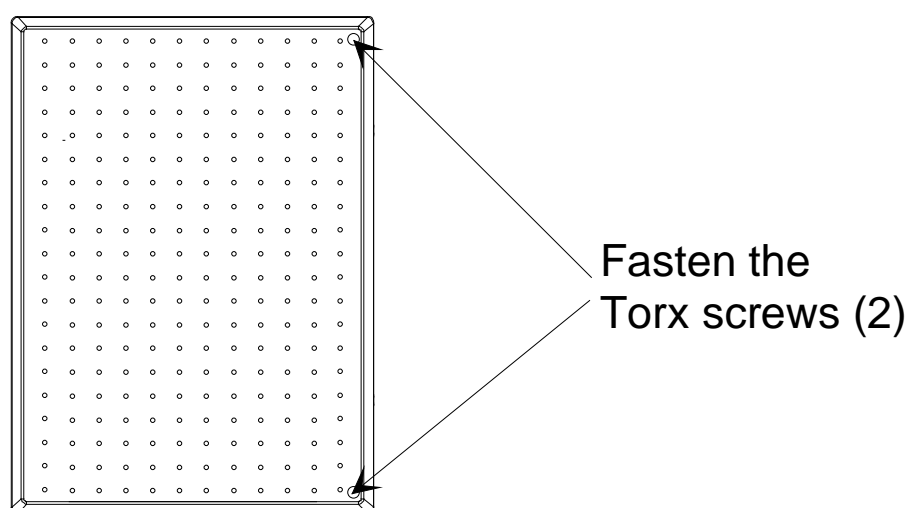

Figure 13 - Closing the Terminal
3. Use the two special lateral screws to secure the cover (see Figure 13). This operation requires a TORX anti-tamper T10 screwdriver.